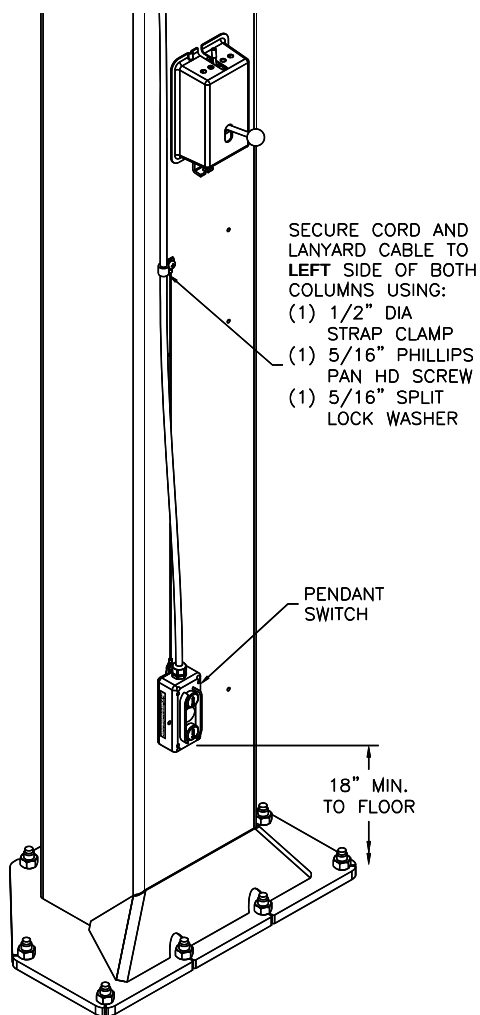

Fig. 24 – Pendant Switch Installation
- 66) Locate the Pendant mounting hole on each column just below the lock cover on the left side. (holes on both columns may require being tapped 5/16-18NC) Hang both pendant switches using supplied 1/2" Line Clamp, 5/16-18 x 3/8 Lg. Pan Head Screw and 5/16" Split Lock Washer, **Fig. 24**. Position Line Clamp around pendant wire. Insert screw thru lock washer, free end of Cable Lanyard, and Line Clamp and secure to column.